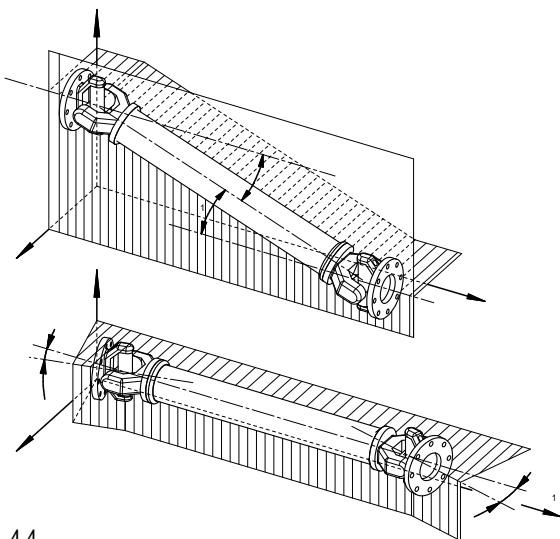

Fig. 4.4
- In order to achieve a uniform motion of the driven shaft, the following requirements must be met (see Fig. 4.4):